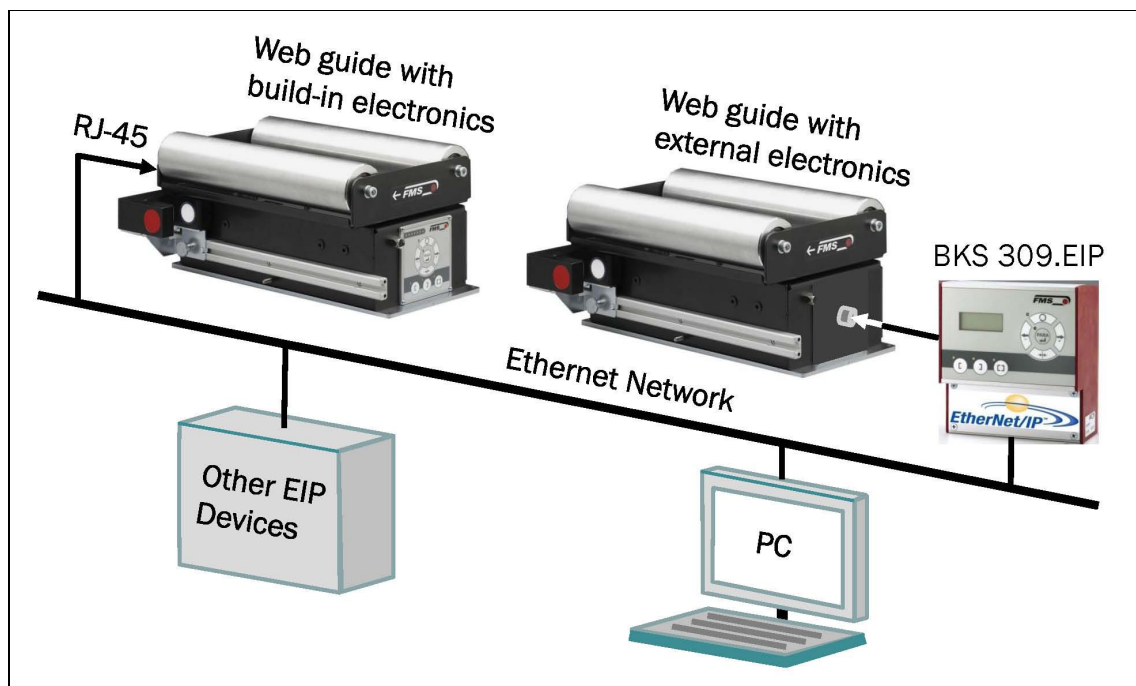

Fig. 2: BKS015.EIP in an Ethernet Network
-  *Make sure that the sensor(s) are connected properly to the electronic unit by means of the delivered cables. For left / right orientation please refer to Fig. 2. If the connections are crossed over, malfunction can be the result.*
Left and right are always seen in direction of the running web (see Fig. 2).